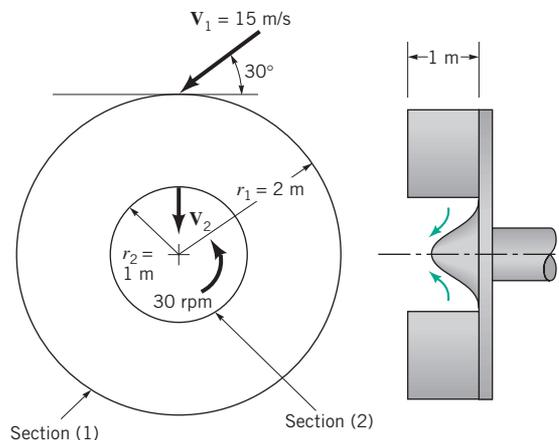

FIGURE P5.57
**5.57** A water turbine with radial flow has the dimensions shown in Fig. P5.57. The absolute entering velocity is 15 m/s, and it makes an angle of  $30^\circ$  with the tangent to the rotor. The absolute exit velocity is directed radially inward. The angular speed of the rotor is 30 rpm. Find the power delivered to the shaft of the turbine.